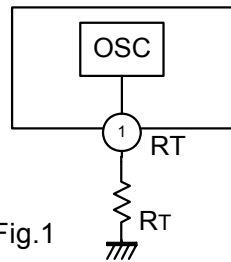

Fig.1
The oscillator of FA7703/04 generates triangular waveforms by charging and discharging the built-in capacitor. Any desired oscillation frequency can be obtained by setting the value of the resistor connected to RT terminal (Fig. 1).
(1) Setting oscillation frequency
As described in “(2) Oscillator” of “Description of each circuit”, any desired oscillation frequency can be obtained by setting the value of the resistor connected to RT terminal. (Fig. 1) The desired oscillation frequency should be set between 50kHz and 1MHz. The oscillation frequency to RT can be obtained from the chart of “Oscillation frequency vs. timing resistor” characteristic curves or by calculating with the formulas below.